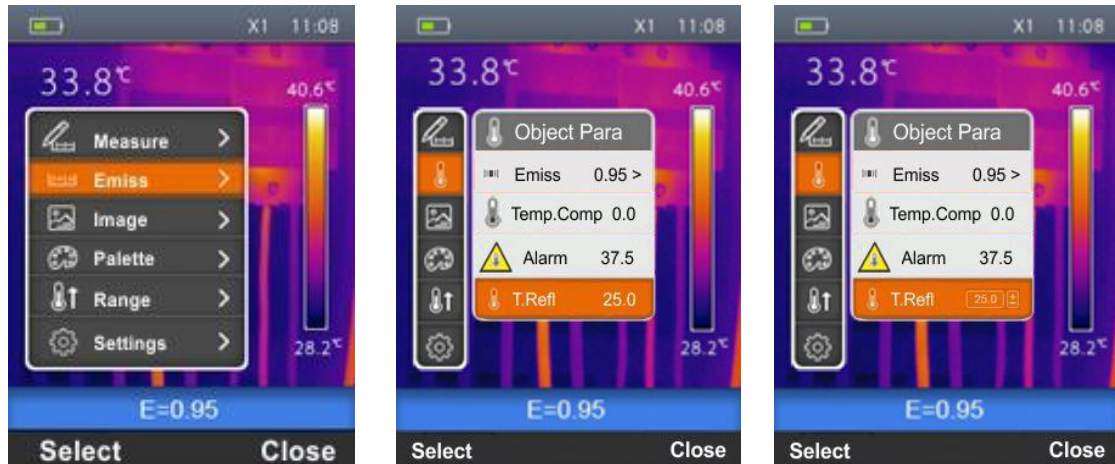

Fig. 21: Setting the Reflected Temperature on the instrument
1. Select the item “T. Refl.” using the keys $\oplus$ or $\ominus$ and press the key “Select”. The screen Fig. 21 – Central part is shown on the display